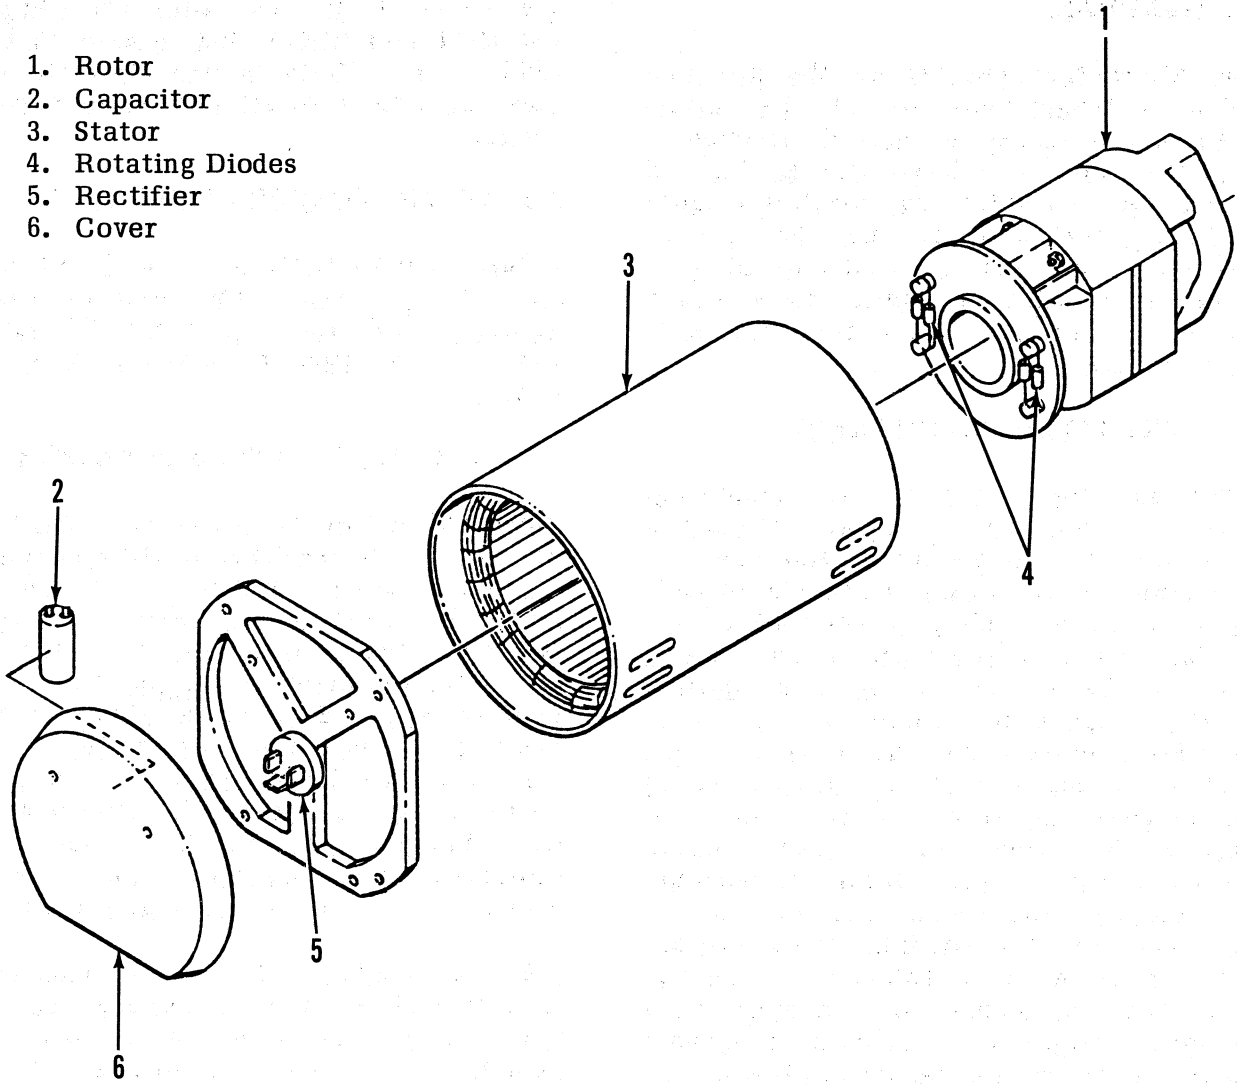

Figure 5-1. Generator Assembly
Reference Figure 5-1 for the following; upon start-up, the residual magnetism in the rotor (1) will generate a small amount of current in the capacitor (2). The capacitor acts as a leading power-factor load on this winding, thus creating a magnetizing force in the stator (3) which is additive to the magnetizing force of the rotor (1). This induces a current to flow in the field coil of the rotor (1), thereby increasing the magnetizing force of the rotor (1), thereby increasing the voltage across the capacitor (2) and stator (3) winding, and thereby increasing the current in the capacitor (2) winding. This process will repeat until a balance is reached such that the amount of magnetic field strength matches that required to support the voltage across the capacitor (2) winding.